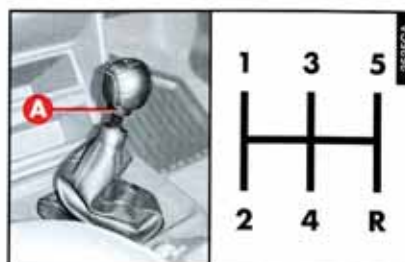

fig. 82
GEARSHIFT LEVER (fig. 82)
For 1.9 JTD version to engage reverse gear (R) it is necessary to wait for the car to be stationary, then raise the ring under the grip (A-fig. 82) (with the fingers of the same hand holding the lever). After engaging reverse gear, release the ring. It is not necessary to raise the ring on the lever when shifting from reverse to another gear.